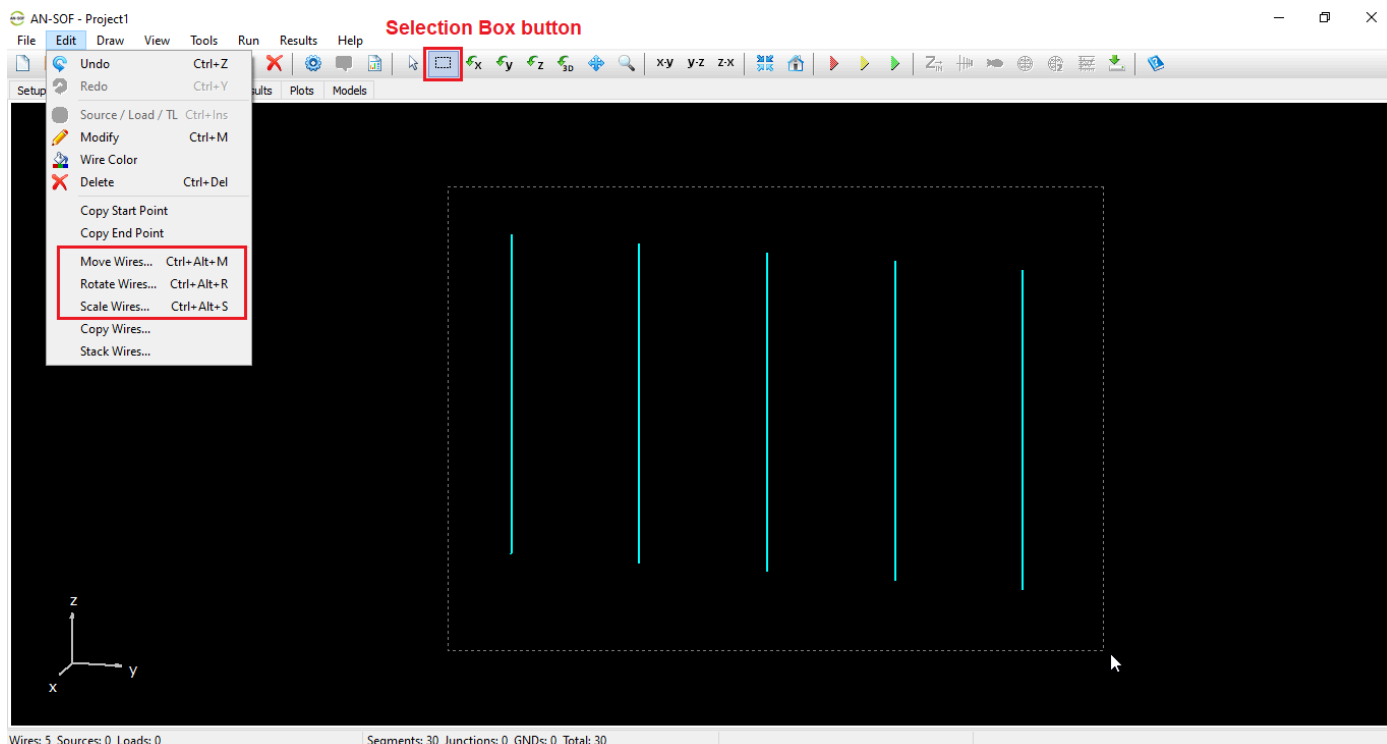

Fig. 1: “Selection Box” button on the toolbar to select a group of wires and commands in the Edit menu to move, rotate, and scale the selected wires.
- Drag a box using the mouse while holding the left button to enclose the wires you want to modify (see **Fig. 1**).